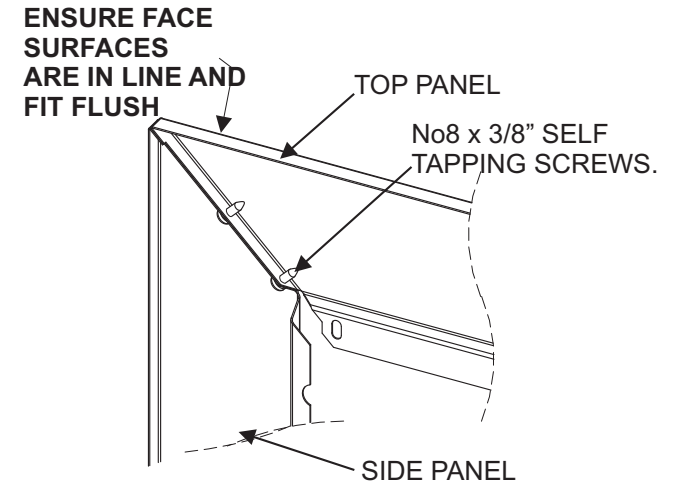

FIG 2.
2. Secure RH and LH side panels to TOP panel at 45 degree corners. Use (2 off) No8 x 3/8" self tapping screws each side. **See Fig 2.**